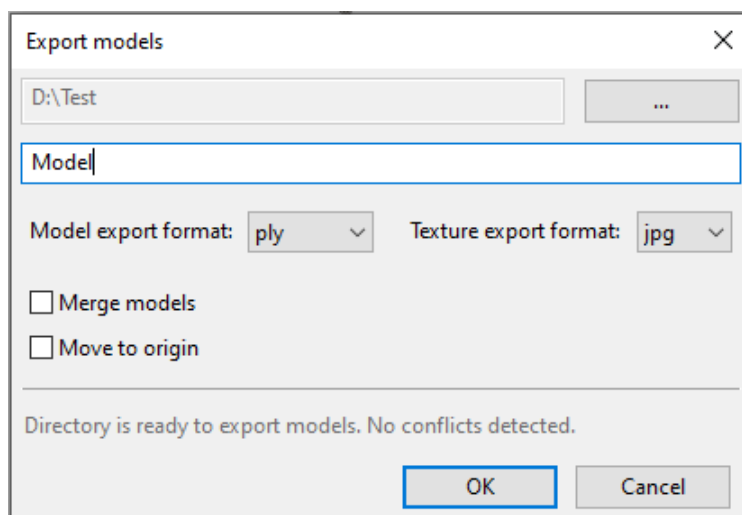

Figure 69: Dialog for exporting meshes.
2. Select the *File* → *Export* → *Meshes* command. A dialog window will appear (Figure 69).